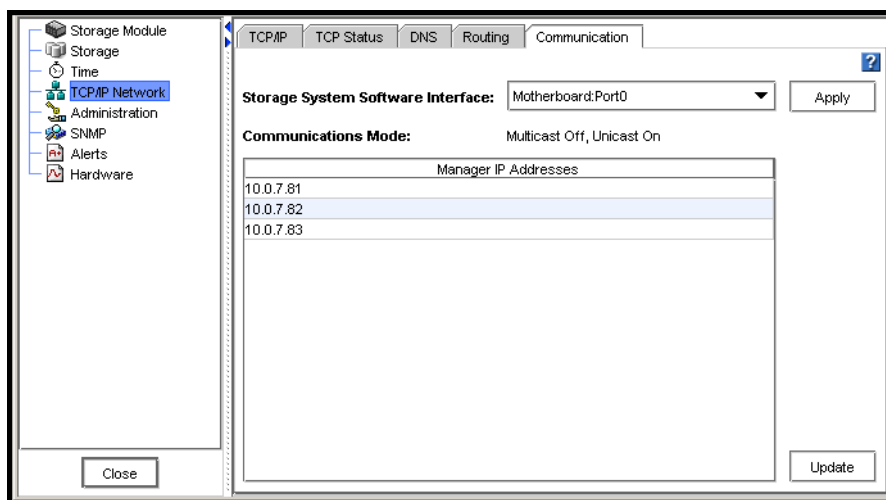

Figure 72. Selecting the Storage System Software Network Interface and Updating the List of Managers
2. Click the Communication Mode tab to bring it to the front, shown in Figure 72.